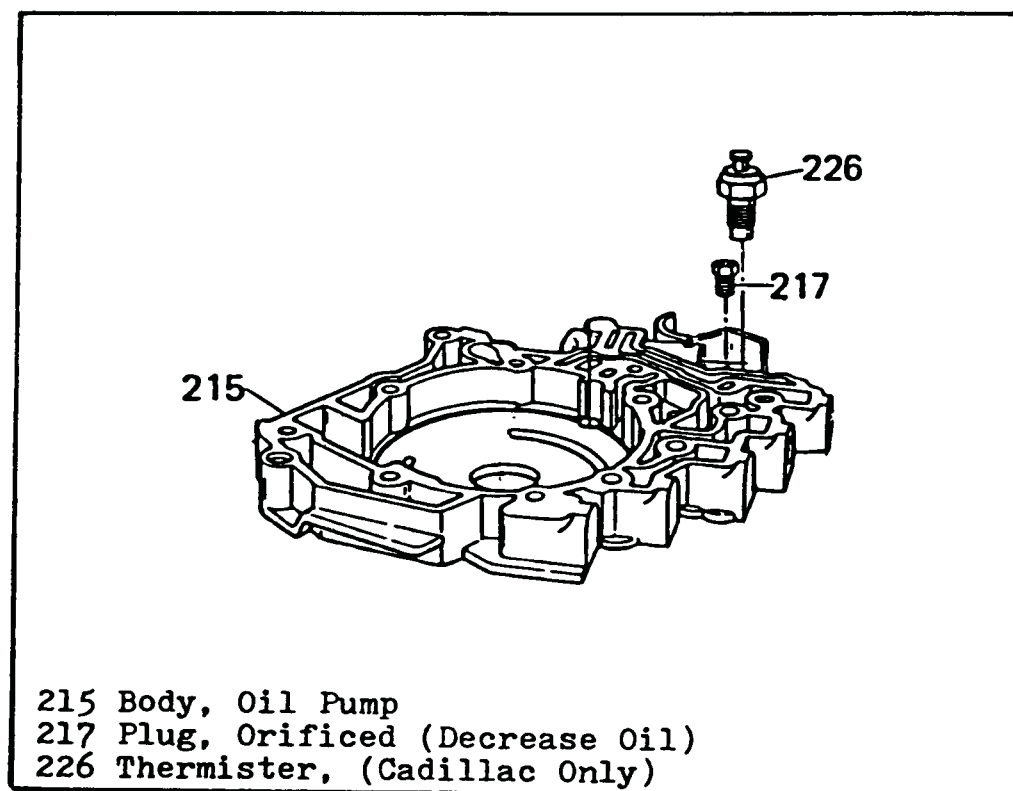
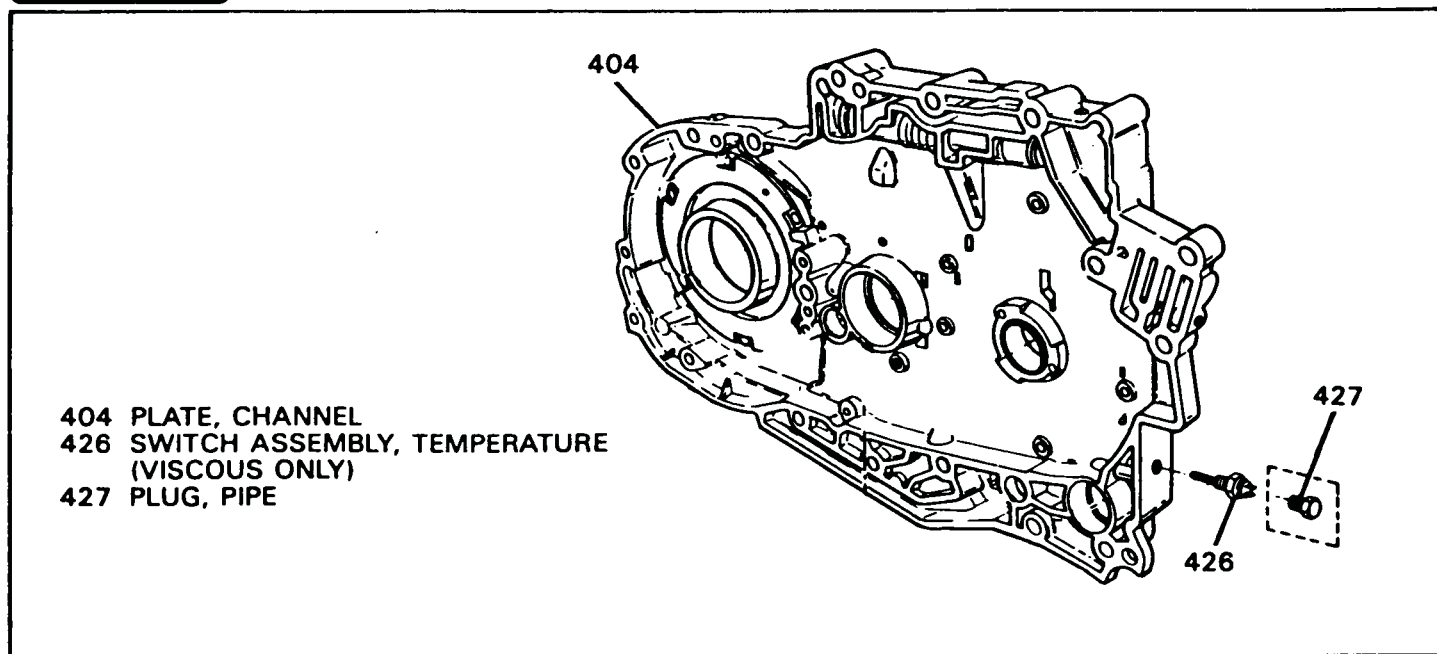

Figure 72
Figure 73
**CHANGE:** Thermister located in oil pump housing moved into cooler line (See Figures 72 & 74). Temperature switch in channel plate was also eliminated (See Figure 73).
- (1) Thermister - Removed from pump housing (See Figure 72).
- (2) Temperature Switch - Eliminated (See Figure 73).